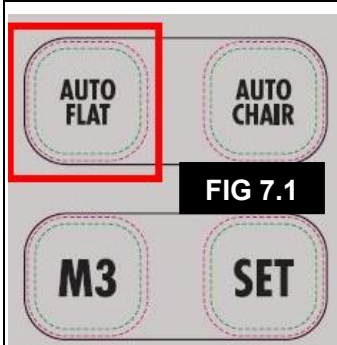

FIG 7.1
3.7.1 Auto Flat, position function – this Supine/Flat position has been pre-set for your convenience. To operate – lay the chair position out flat or supine, *press & hold* the button on the handset labelled 'Auto Flat' until all actuators/functions have stopped moving or the desired position has been reached. **See Figure 7.1**